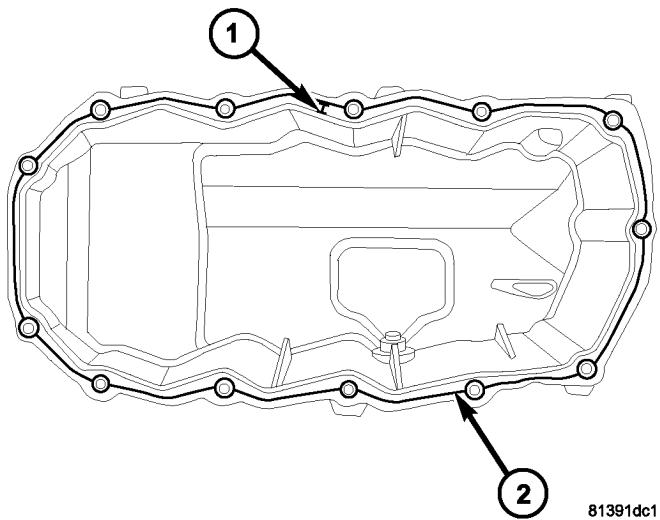

Fig. 92 Oil Pan Sealing
- (1) Apply 3 - 4 mm diameter bead of MOPAR® Engine RTV around the perimeter of the oil pan flange, 1 mm away from the chamfer on the inner edge of the oil pan (Fig. 92).
- (2) Position oil pan on bedplate.
- (3) Install oil pan attaching bolts and tighten to 12 N·m (105 in. lbs.).
- (4) Install air conditioning compressor bracket to oil pan bolt.
(5) Install structural collar (Refer to 9 - ENGINE/ENGINE BLOCK/STRUCTURAL COVER - INSTALLATION).
(6) Lower vehicle and fill engine crankcase with proper oil to correct level.
(7) Connect negative battery cable.
(8) Start engine and check for leaks.